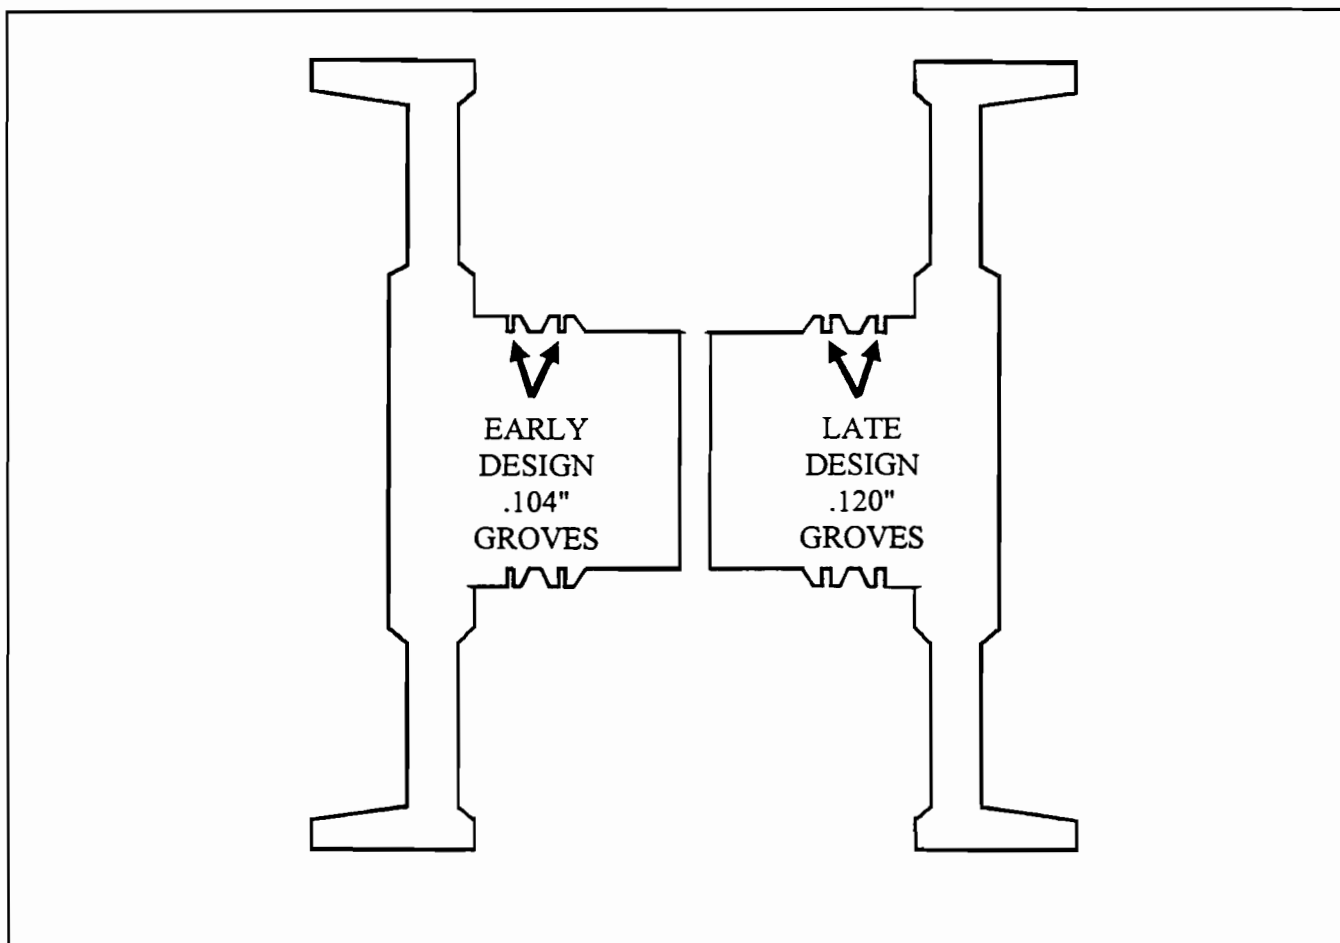

Figure 1
- (1) CENTER SUPPORT- The sealing ring grooves were enlarged from .104" to .102" (See Figure 1).
- (2) SEALING RINGS- The sealing rings were enlarged to fit the larger ring grooves.